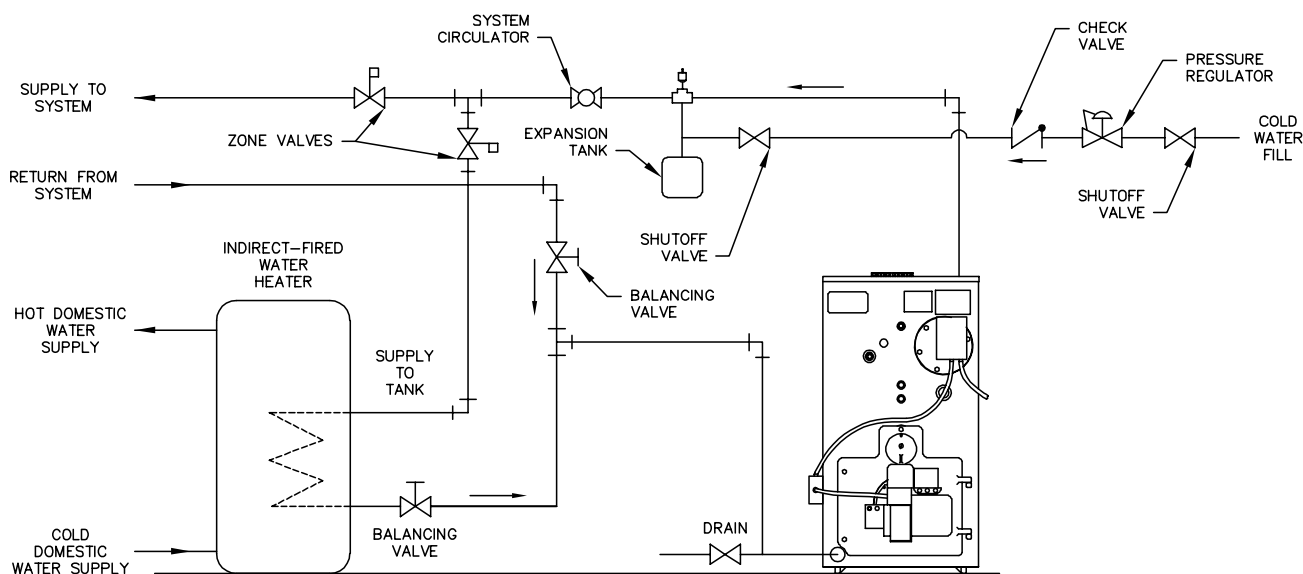

Figure 4.12: Piping with Peerless® Indirect Water Tank
3. If using a Partner® indirect fired water heater or other, see Figure 4.12 for typical piping. Also refer to additional instructions supplied with the Partner®.